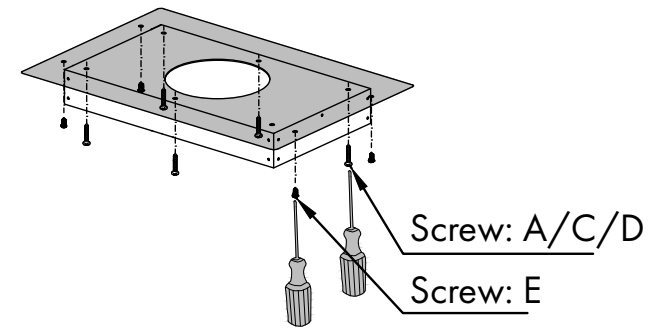

Figure 1
- Attach crown molding bracket to ceiling using hardware provided. *Figure 1*